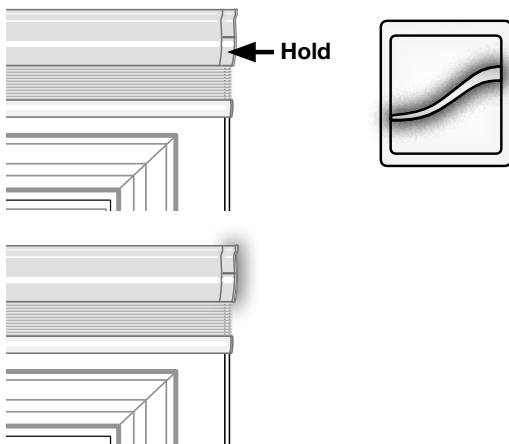

Fig. 30
B. Press and hold the button on the shade end until the LED begins to flash green (about three seconds) and release. If inclusion is successful, the shade will appear as a found Z-Wave device in the home automation system user interface. Repeat this step for each shade and remote being added to the home automation system. (Fig. 30)